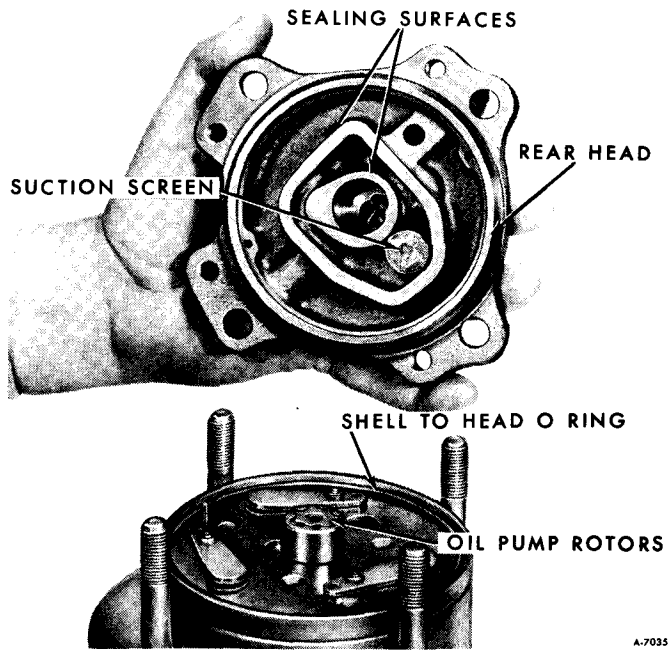

Figure 94—Rear Head Removed
5. Wipe excess oil from all sealing surfaces on rear head casting webs, and examine sealing surfaces (figure 94). If any damage is observed, the head should be replaced.